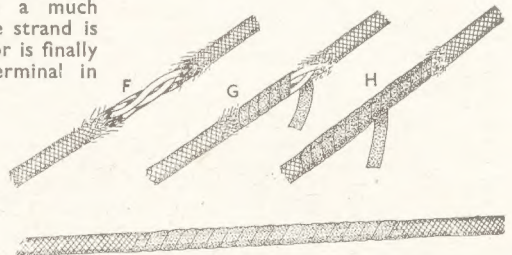

Fig. 2—How to treat and repair worn flex covering
In the detail at Fig. 2 view (E) indicates a piece of flex, the outer braiding of which is frayed, exposing the three strands of rubber to be found in three core flex. If the rubber covering is intact and sound, first bind a length of rubber tape round the worn part, as indicated in view (F).